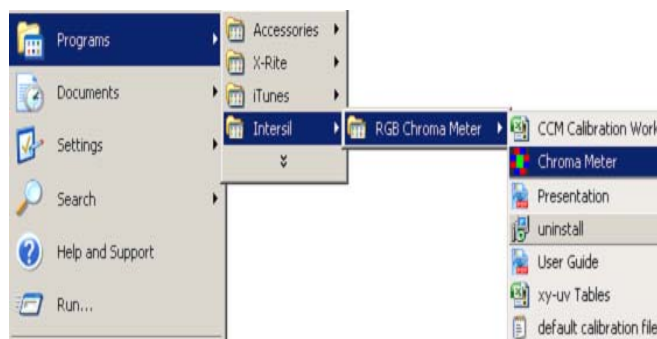

FIGURE 8. INSTALLATION READY TO INSTALL SCREEN
- B) Launching the RGB GUI** - Once the installation is complete, click "Finish" to launch the RGB GUI. If you wish to launch from your PC desktop, use the path shown in Figure 8. (Start → Program → Intersil → RGB Chroma Meter → Chroma Meter.